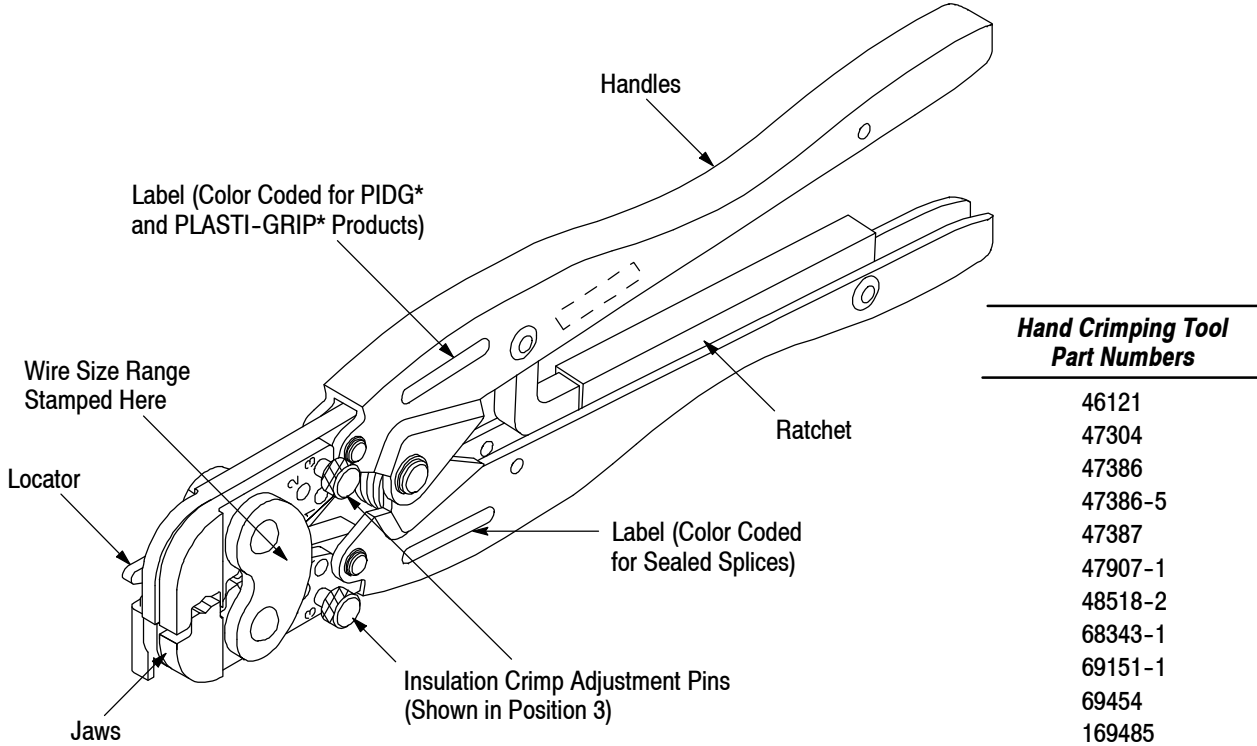

Figure 1
CERTI-CRIMP hand crimping tools listed in Figure 1 are used to crimp the products onto the wire listed in Figure 2.
2. DESCRIPTION (Figure 1)